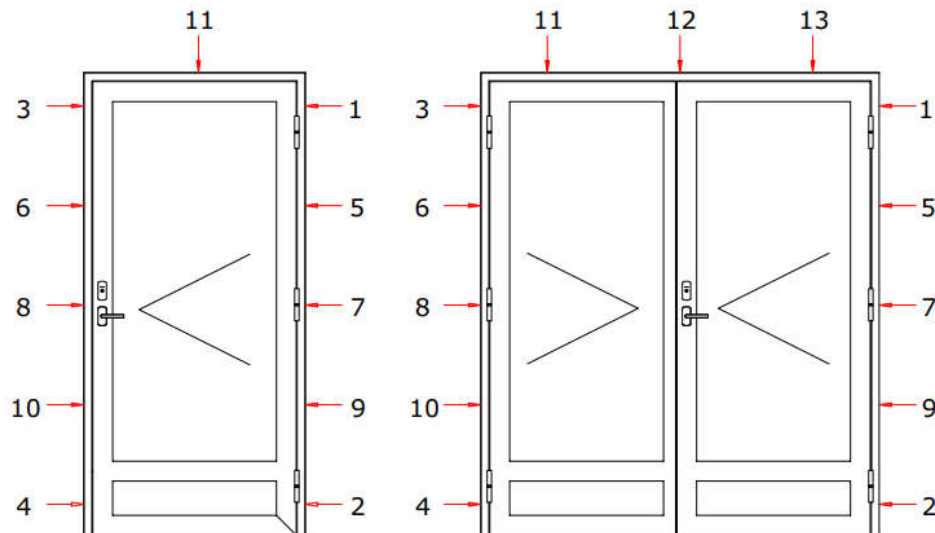

Figure 3 Sequence of the fixing points for doors
5. Level the hinge side of the frame and drill the first fixing point through frame. Correct sequence of the fixing points is shown in the figure 3.
7. Fix the frame with remaining fixing points (Figure 3). Support blocks must be added next to every fixing point. Tighten the screws.